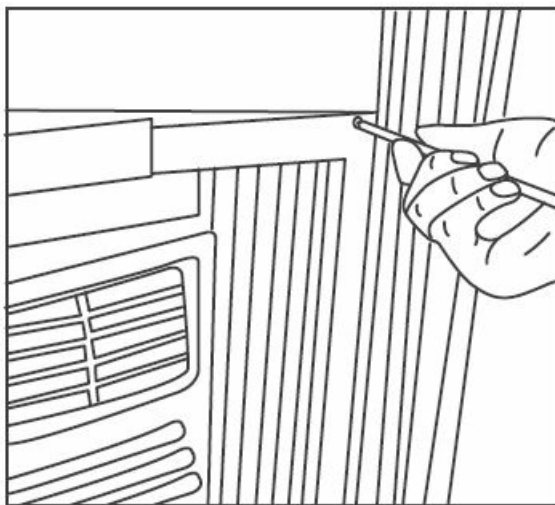
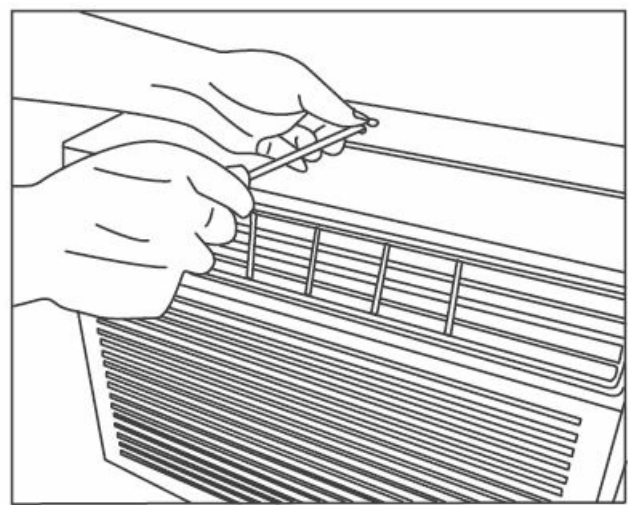

Fig.9
Fig.10
5. Drive 1/2" (12.7mm) locking screws through frame holes into window sash (Fig.9 Fig10).